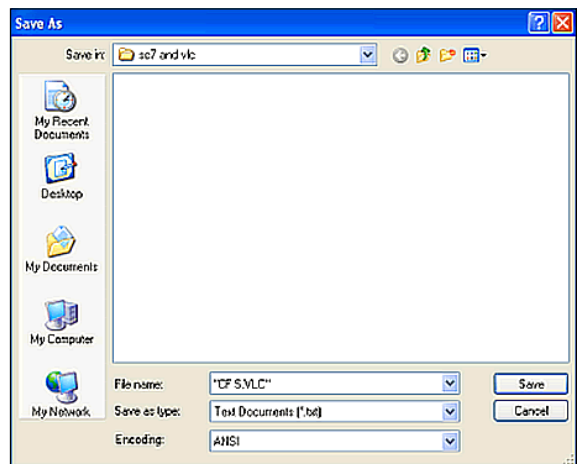

Figure 35: Saving as .VLC
14. Click **File > Save As** and enter "**CF S.VLC**" into the **File Name** text box. Include the quotation marks as this ensures that the file saves as a .VLC file. Refer to **Figure 35**.